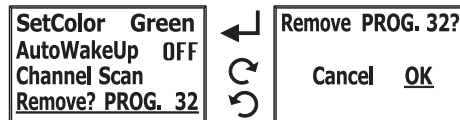

Fig. 27
(3) CAUTION:
(P) Remove? function, Fig. 27: